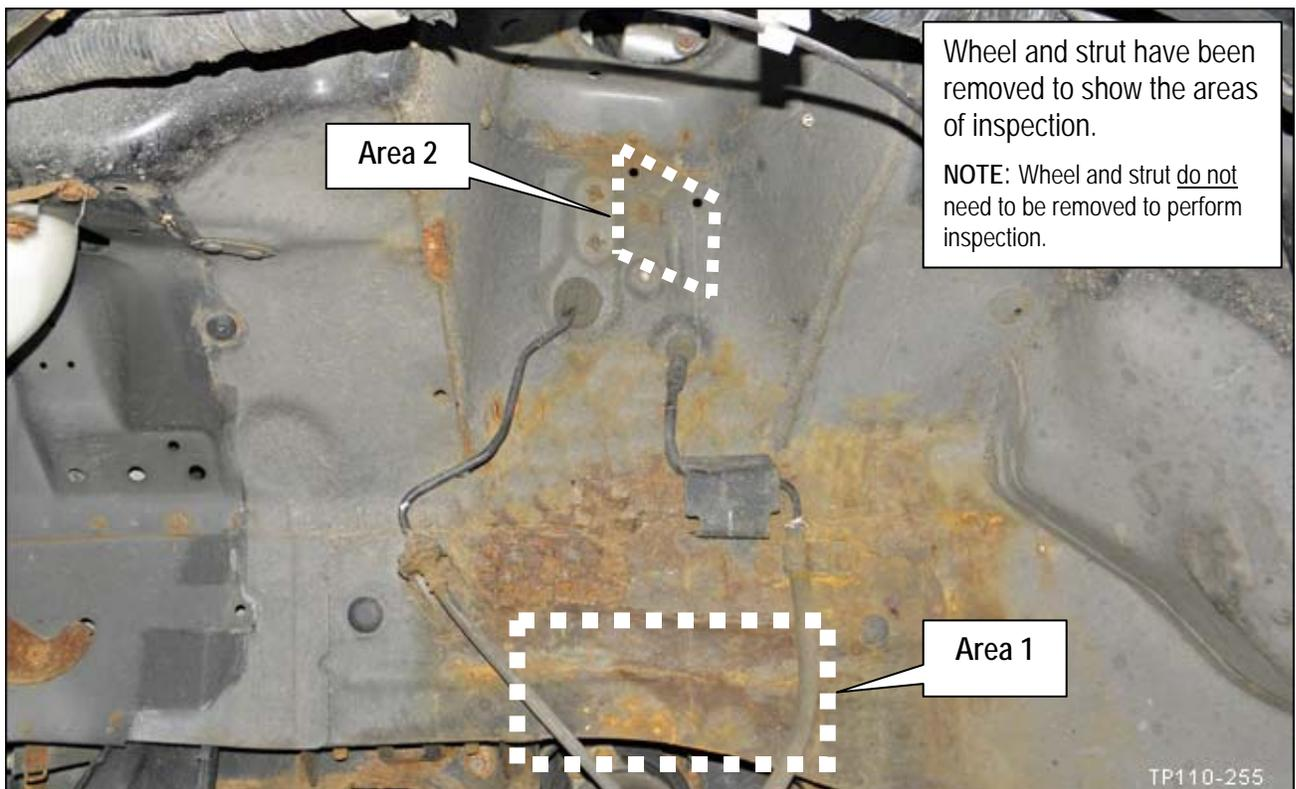

Figure 2
4. Inspect for corrosion in Area 1 and Area 2 (see Figures 2, 3 and 4).